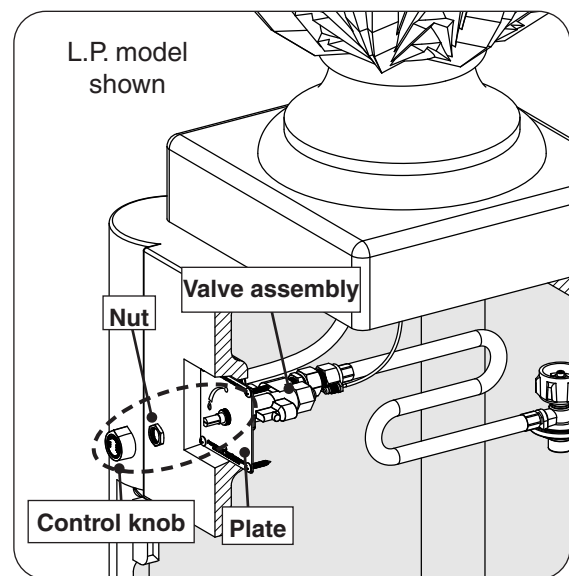

Fig. 19-2 Install valve assembly
- Locate the valve assembly (coming from the inside of the urn). Remove the control knob. Use a 20mm socket to remove the nut attached to the valve stem. Insert the valve assembly through the plate (in the base). Replace the nut onto the valve stem, and tighten. Reinstall the control knob. See Fig. 19-2.